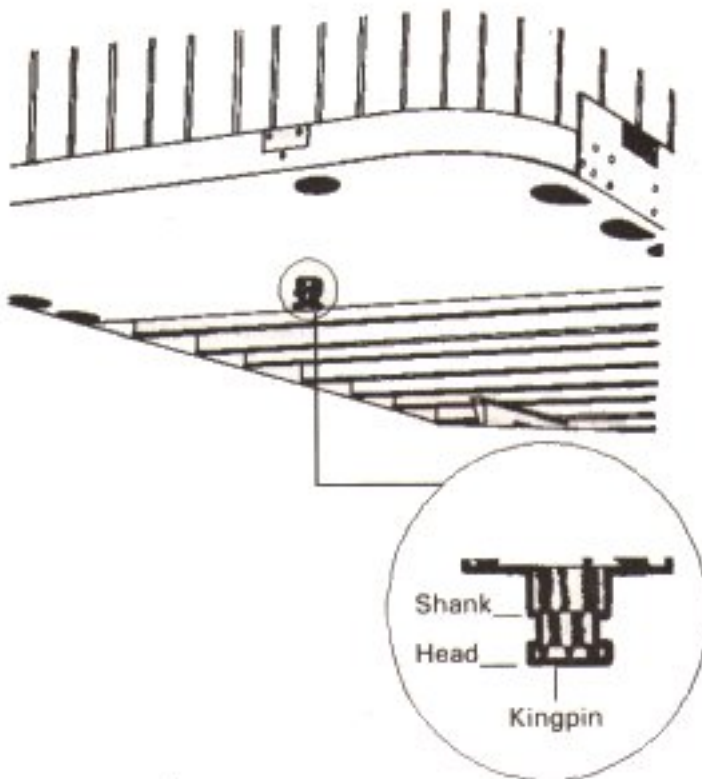

Figure 6-7 Trailer Kingpin
- Go under trailer and look into the back of the fifth wheel. Make sure the fifth wheel jaws have closed around the shank of the kingpin (see Figure 6-7).